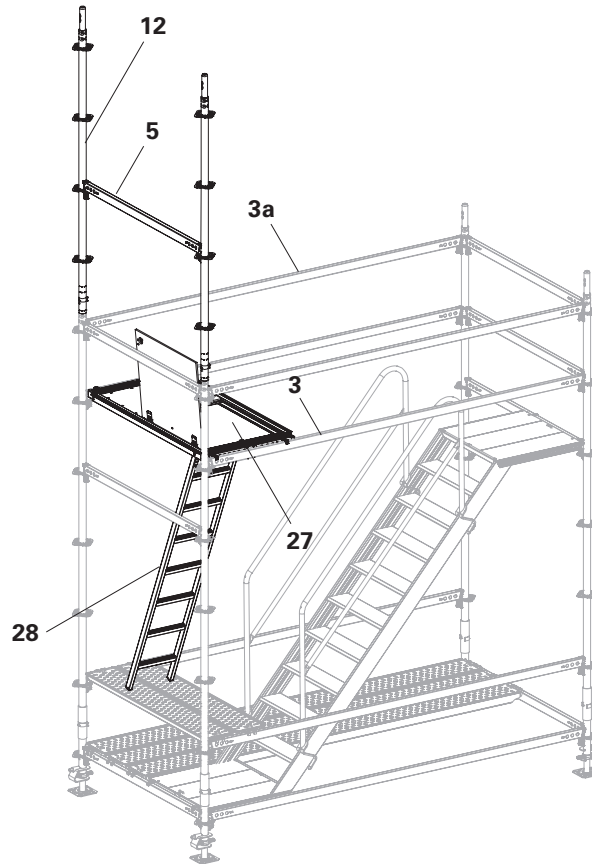

Fig. B4.01
4. Fit Horizontal Ledgers UH-2 (**5**) and secure wedges with hammer blow. (Fig. B4.01)